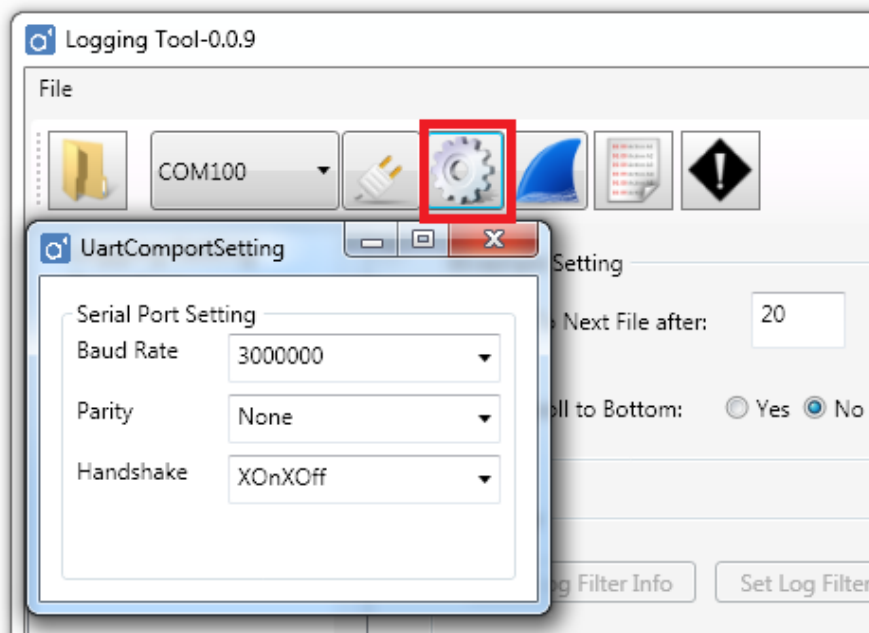

Figure 11. Serial Port Configuration Dialog
- 3) Set Baud Rate is shown in Figure 11.